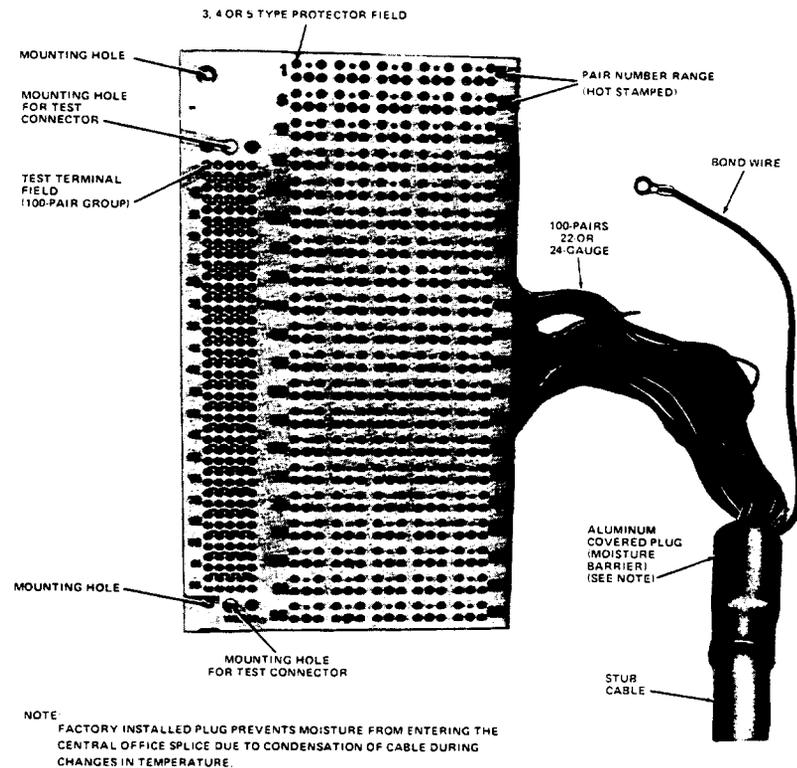

**Figure 20—309-Type Connector**
**6.04** The 309-type connector (Figure 20) is designed for use on the ED-97754-74 LPCDF (Low Profile Conventional Distributing Frame), the ED-6C331-70 single-sided low profile distributing frame, and the